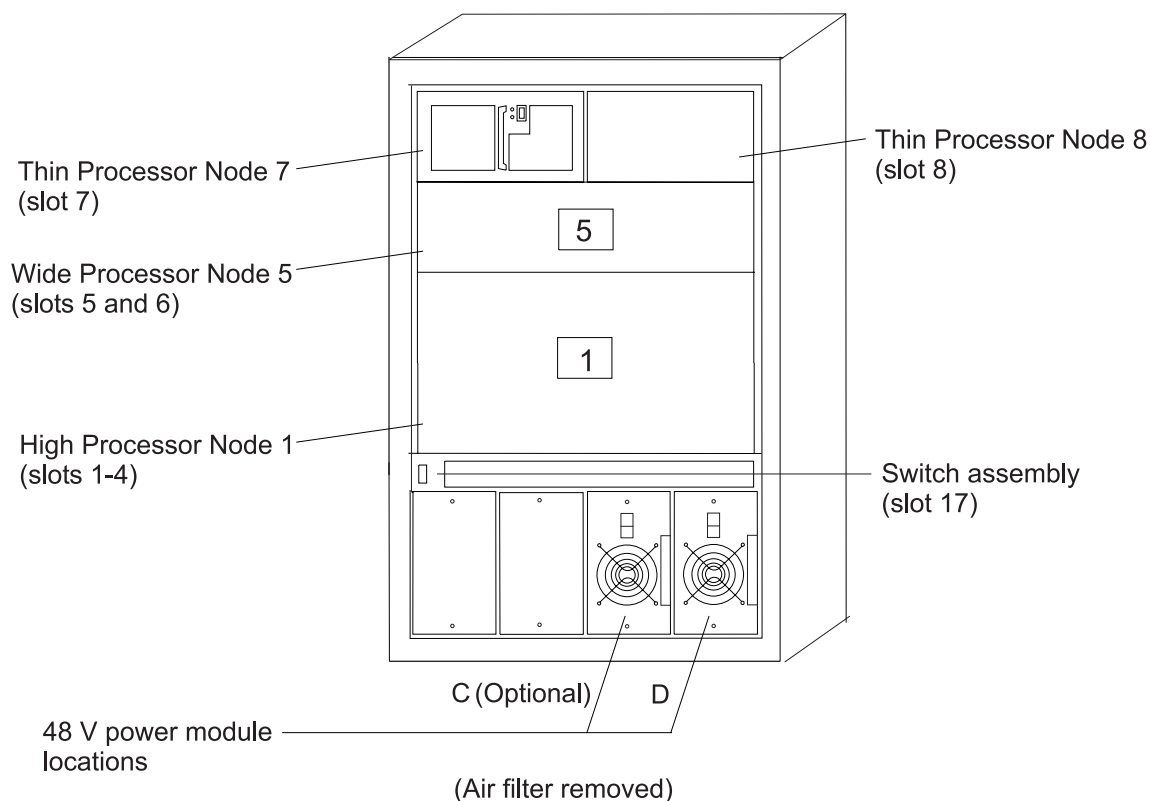

Figure 1-19. Front view of 1.25 m frame locations
- The LC8 has only one power module (in position D — see Figure 1-19 on page 1-68) and optionally one additional power module in position C.